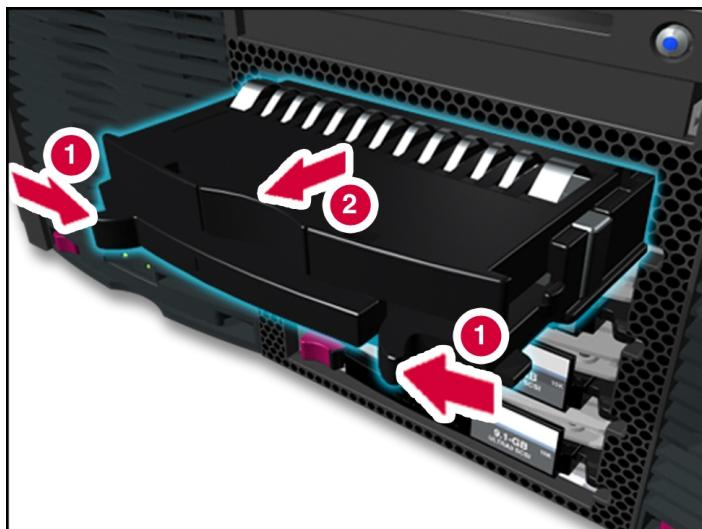

Figure 5-11: Removing a hard-drive blanking panel
1. Remove the blanking panel in an unused drive bay by pushing the sides of the retaining clips inward (1), and then pull the blanking panel outward (2), as shown in Figure 5-11.